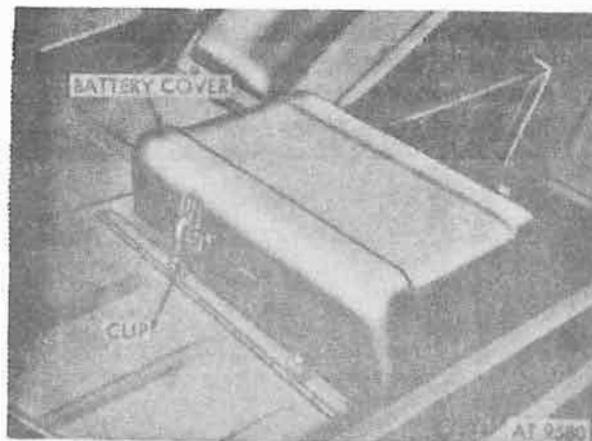

Figure 4-11. Remove battery cover.
(3) Open front and rear hold down snap clips on battery cover and remove cover (fig. 4-11). Lift cover up while removing.
(3) Release battery cover holddown clips and remove cover as shown in figure 4-11.